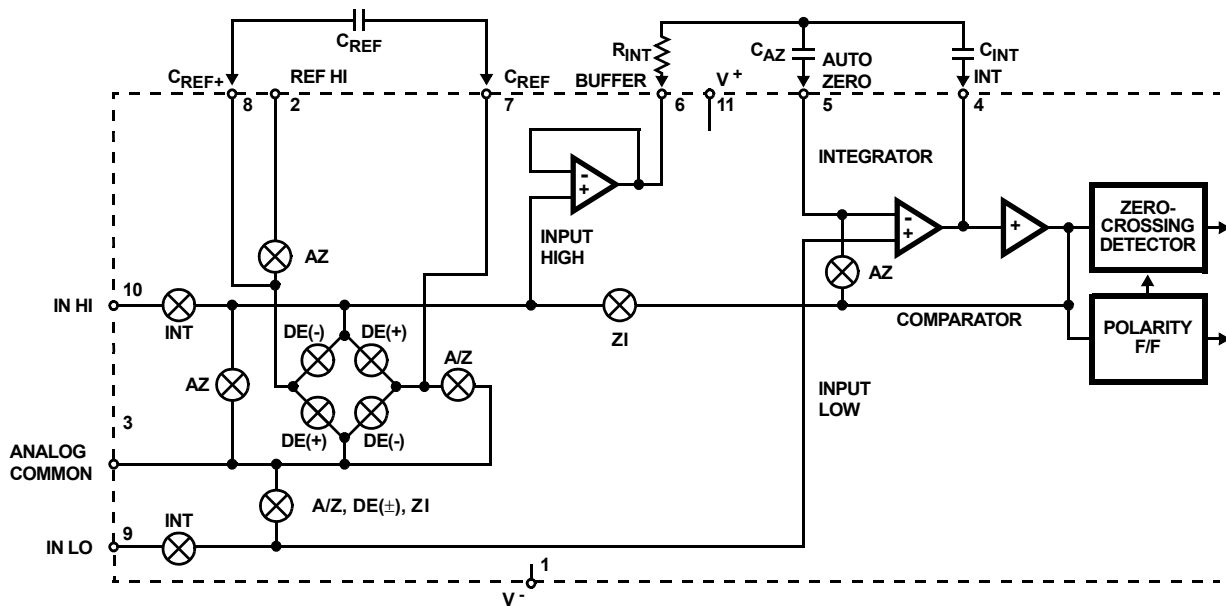

FIGURE 3. ANALOG SECTION OF ICL7135
- Tested in 4 $\frac{1}{2}$ digit (20,000 count) circuit shown in Figure 3. (Clock frequency 120kHz.)
Figure 3 shows the Block Diagram of the Analog Section for the ICL7135. Each measurement cycle is divided into four phases. They are (1) auto-zero (AZ), (2) signal-integrate (INT), (3) de-integrate (DE) and (4) zero-integrator (ZI).